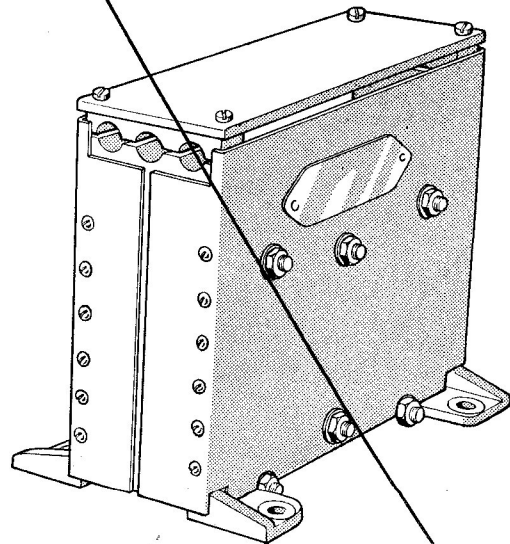

Fig. 1. Typical Ferranti transformer (Type RD 6609 shown)
2. A typical transformer is illustrated in fig. 1 and its terminal arrangement is given in fig. 2. Fig. 1 of Appendix 1 to this chapter shows the circuit diagrams of all the transformers listed.